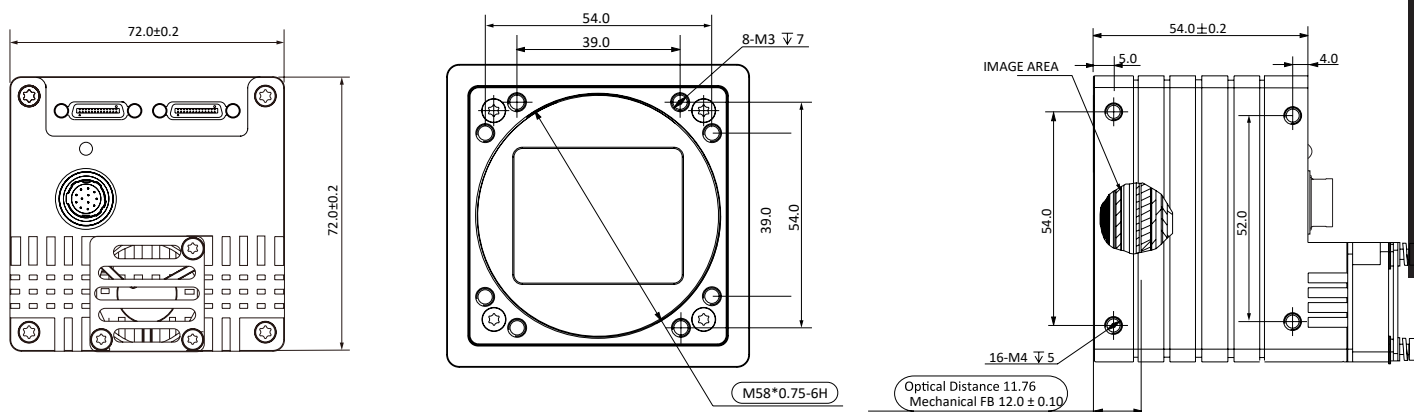

Fig. 1-6: Mechanical Dimensions (in mm) for Cameras with 72 * 72 * 54mm housing (M58 interface).
- Fig. 1-6: Mechanical Dimensions (in mm) for Cameras with 72 * 72 * 54mm housing (M58 interface).